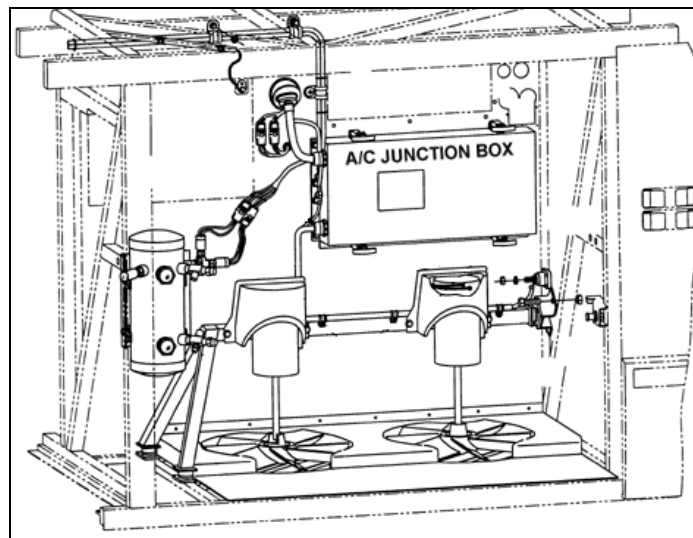

FIGURE 4 : A/C JUNCTION BOX
2. Remove A/C junction box cover (refer to fig. 4).